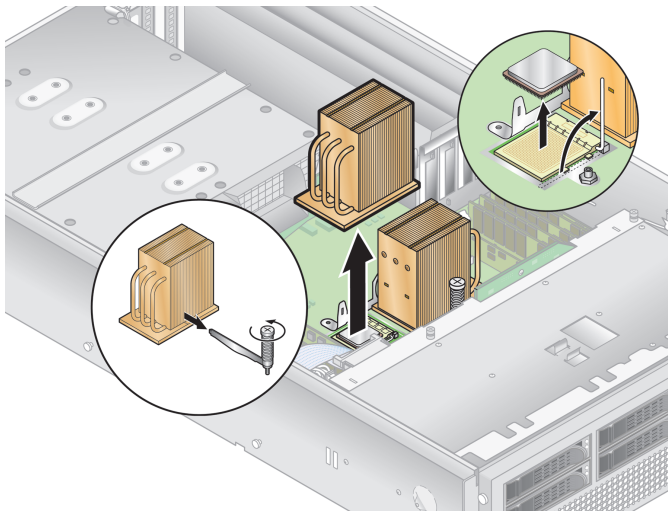

FIGURE 9 Removing the Heatsink and CPU
4. **Loosen the captive screw that secures the heatsink hold-down assembly crossbar, then remove the crossbar from within the heatsink fins (see FIGURE 9).**
7. Pull the socket release lever up to the fully open, perpendicular position (see FIGURE 9).